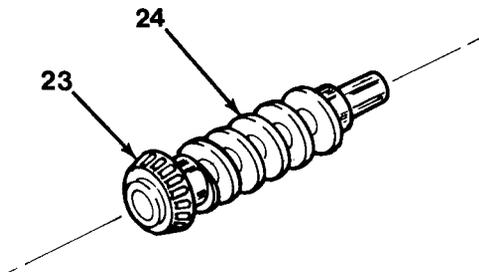

Figure 15-7
14. Remove worm (24) from opposite end of housing (35).
15. Remove remaining bearing cone (23) from worm (24, Figure 15-7).